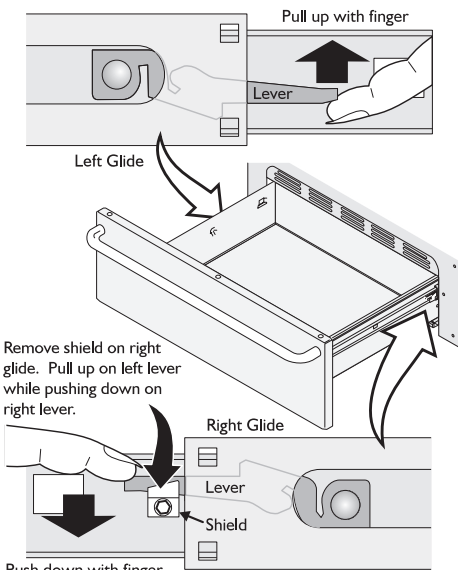

Figure 1
1. Open oven door completely (horizontal with floor - See Fig. 1).
3. On the right glide you will find a shield attached with a hex-head screw (See Figure 1). Using a 1/4" socket and ratchet remove the shield.